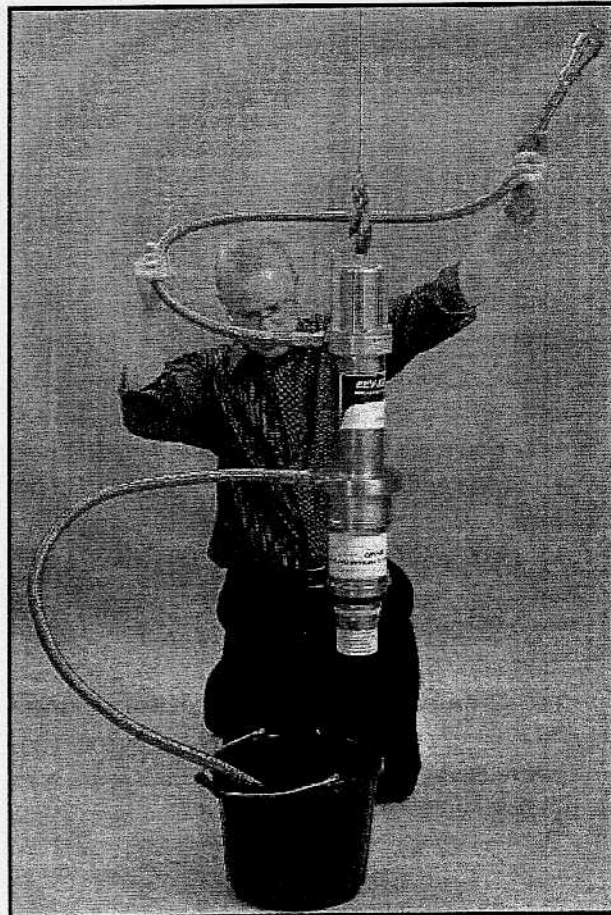

Fig. 29b
7. Drain coolant from the tube (see Fig. 29b). Where self-sealing hose end connectors are used, both ends must be fitted with the appropriate mating fittings to achieve this.